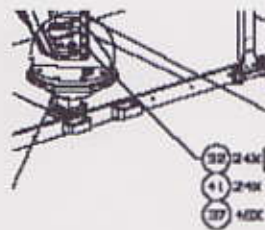

Figure 9
12. Remove Assembly Fixture interface bolts, NAS1958C25, item 32 in Figure 9, countersink washers, NAS1587-8C, item 37, and self-locking nuts, NAS1291C8M. Place the fasteners in the marked bag for identification.